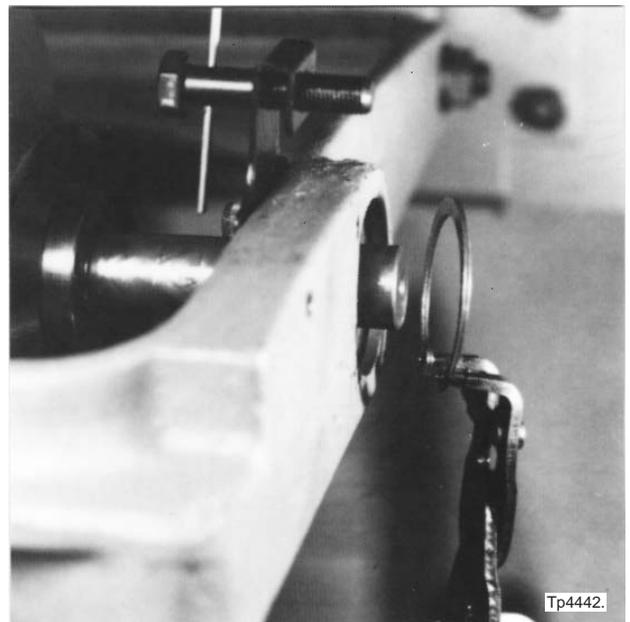

Figure 3.36 - Countershaft Snap Ring Removal
19. Remove the snap ring from the right side of the pulley hanger assembly, as shown in Figure 3.36 .
4. Install the snap ring in the right side of the pulley hanger, as shown in Figure 3.36 .